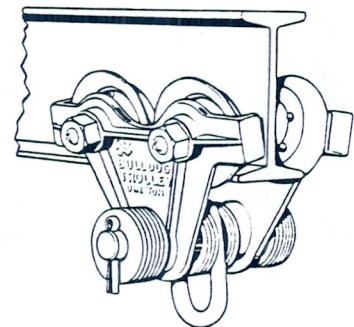

FIG. 2
**TROLLEY MOUNTING** — For simplified trolley installation the "JC" Hoist can be used in conjunction with the R & M Bulldog Trolley. (Fig. 2.) Designed for capacities to 1-ton, the Bulldog is adjustable for use on 4" to 15" American Standard 9° bevel flange I-beams. A set of eighteen steel spacers, included with each trolley, permit centering of the hoist on the lower flange of the beam. Determined by the flange width of beam used, the placing of an appropriate equal number of spacers inside or outside of the trolley frames on either side of the trolley center will provide a required clearance of  $\frac{1}{8}$ " between wheel flanges and the flange of the beam. If spacing washers are properly applied, the trolley will operate efficiently on straight or curved track — with a limitation of 24" minimum radius of curve.